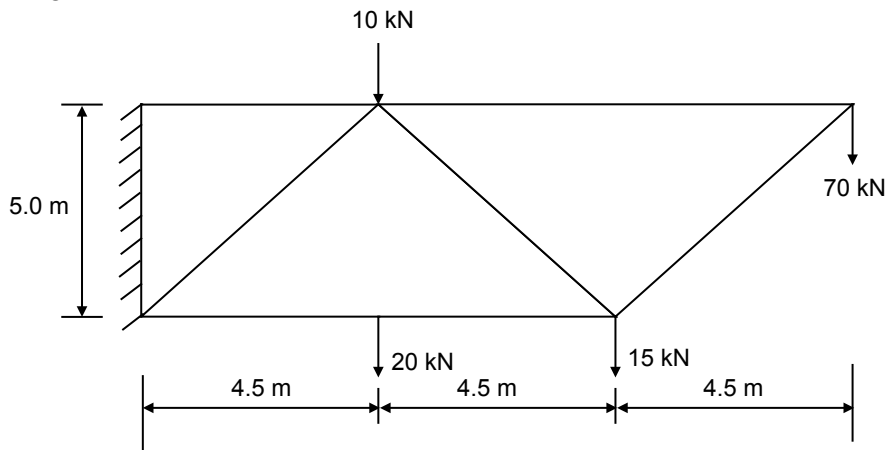

Figure 3
- (b) For the framed structure given in Figure 3 find the magnitude and nature of forces developed in at the members of this truss by: (i) method of joints, (ii) method of sections, and (iii) graphical construction.